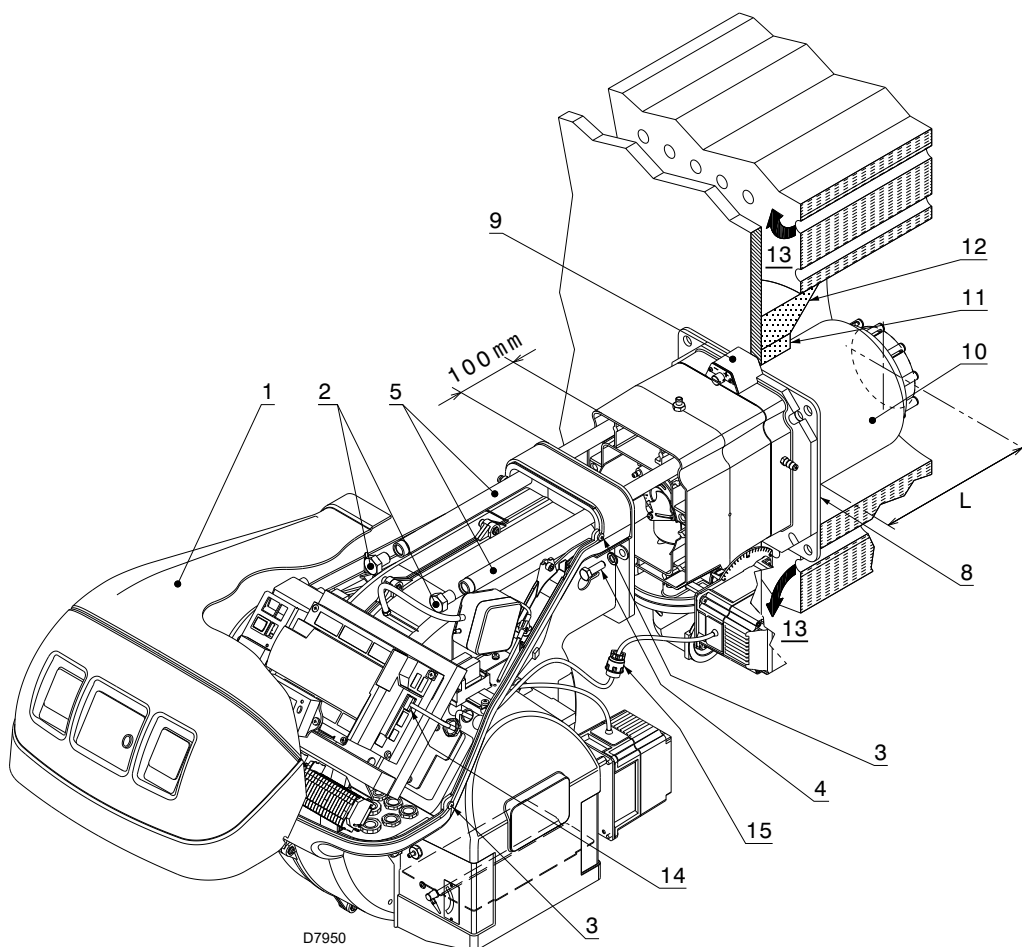

Fig. 16
For boilers with front flue passes 13)(Fig. 16 at page 25), a protection in refractory material 11) must be inserted between the boiler refractory 12) and the blast tube 10).
For boilers with a water-cooled frontal, a refractory cover is not necessary 11)-12)(Fig. 16), unless expressly requested by the boiler manufacturer.
Separate the combustion head from the rest of the burner, as in Fig. 16; proceed as follows:
- reassemble the burner on the guides 3) at about 100 mm from the pipe coupling 4) - burner in the position shown in Fig. 16 at page 25;
- connect the plug of the servomotor 14)(Fig. 16) and tighten the cable grommet 15);